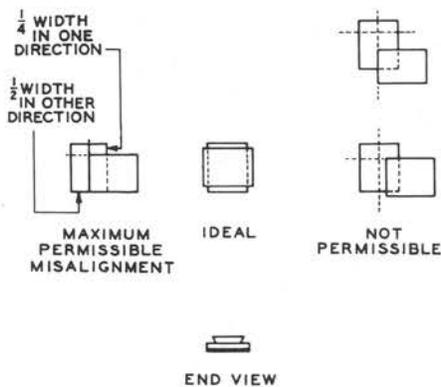

Fig. 27—Contact Alignment—Clutch Drive
**\*2.24 Contact Alignment:** Contact alignment shall be within the limits indicated in Fig. 27. Gauge by eye.